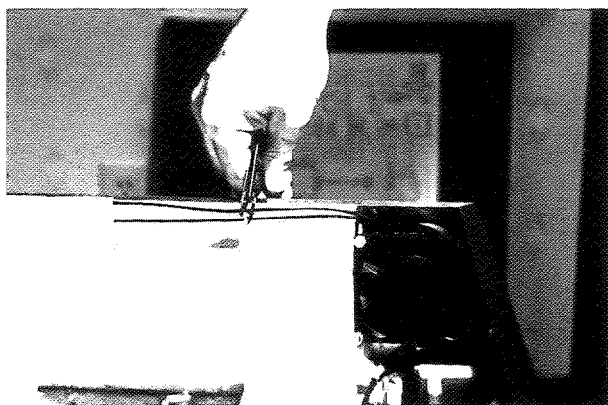

Figure 9
3. Cut the fan wires 6" (15 cm) from the fan. (See Figure 9)